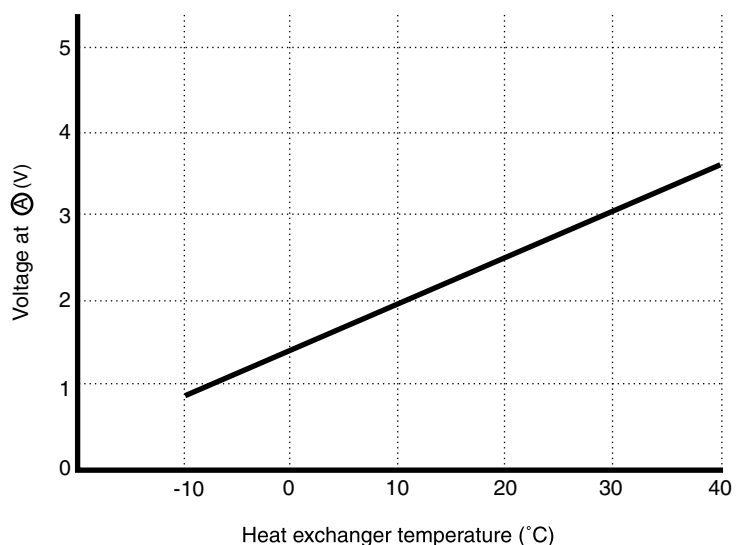

Fig. 7-2
- (1) Low-temperature defrosting during cooling and dehumidifying operation.
The voltage at (A) depends on the heat exchanger temperature as shown in Fig. 7-2.